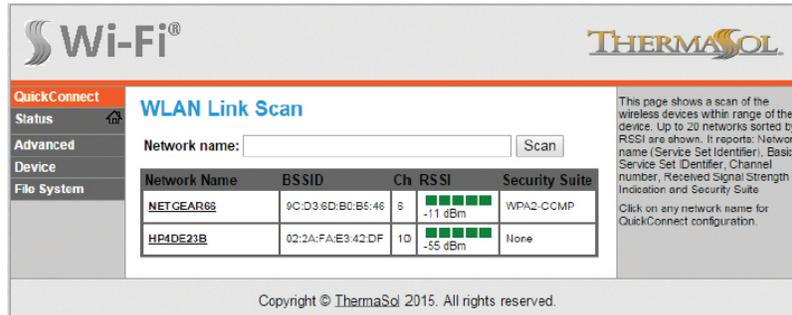

Figure 7: QuickConnect WLAN Link Scan list
4. Find and select the name of your local WLAN Wi-Fi access point in the list of available devices in the QuickConnect WLAN Link Scan as shown below in Figure 7 ("NETGEAR66" WLAN Wi-Fi access point device is used in this guide for illustration purposes. Customers WLAN Wi-Fi access point name may differ)